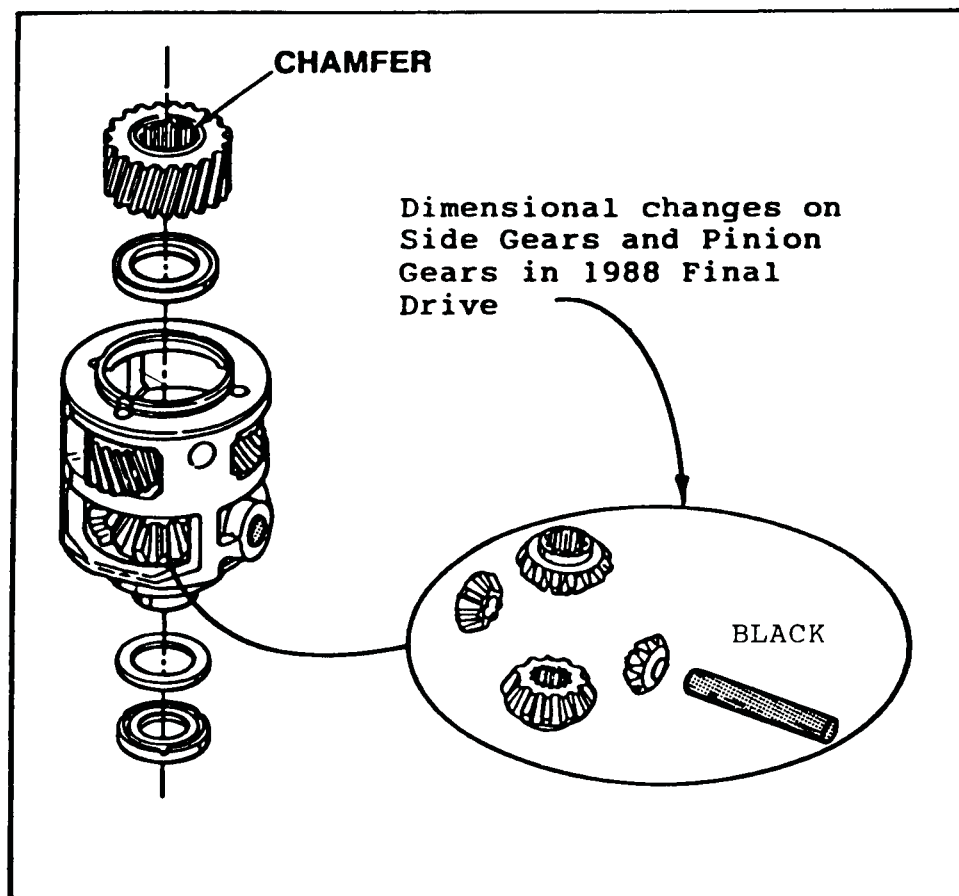

Figure 79
- (1) Differential Side Gears - Revised dimension (Thicker), and they have 16 teeth instead of previous 15.
- (2) Differential Pinion Gears - Revised dimension, and have 10 teeth instead of previous 11.
- (3) Side Gear Thrust Washers - Revised dimension.
- (4) Pinion Gear Thrust Washers - Revised dimension.
- (5) Differential Housing - Revised dimensions (Internal), to accept new side gears and new pinion gears.
- (6) Differential Pinion Shaft - Black in color to identify the new design final drive assembly (See Figure 79). Also is a smaller diameter.